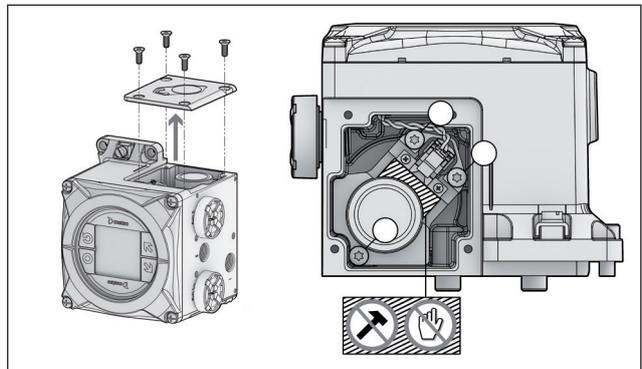

Fig. 95.
- Loosen the prestage cover screws and remove the prestage cover. (Fig. 95)
- Unplug the prestage wire connector from the prestage (Fig. 95)
- Loosen the screws holding the prestage in place. (Fig. 95)